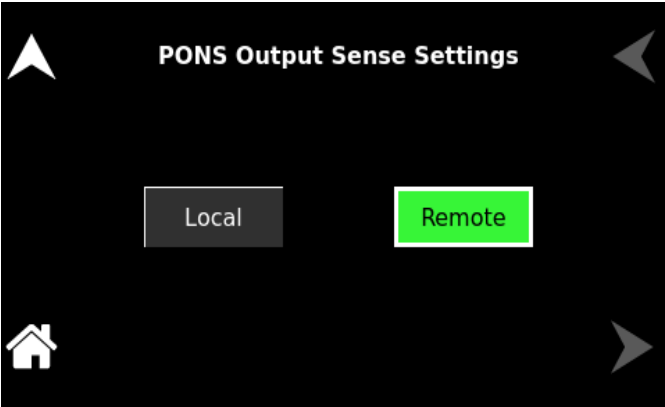

Figure 11-98. PONS Output Sense Settings
**PONS Output Sense** User can program the PONS output to ON or OFF state Refer to Figure 11-98.